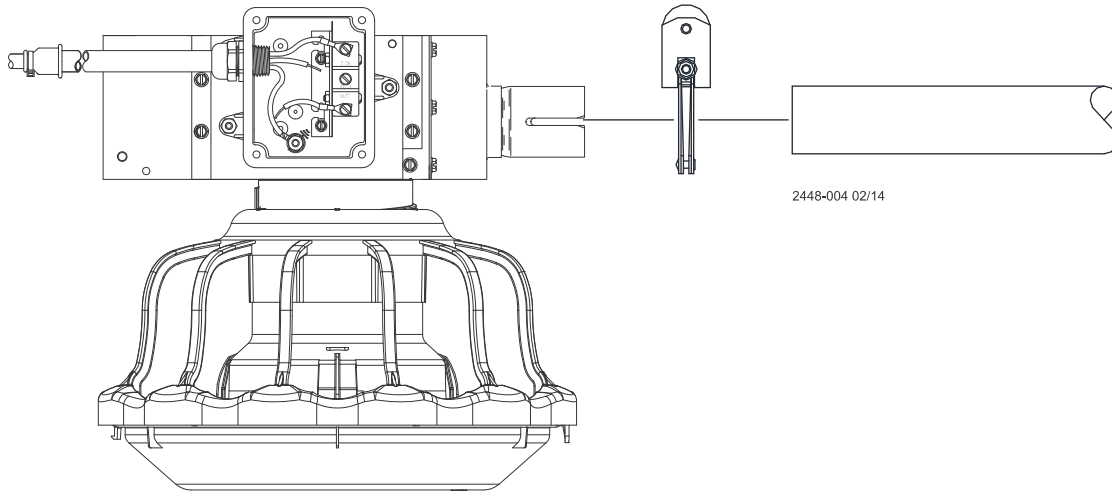

Figure 31. Connecting End Control Unit to the Feed Line Tube
1. Assemble the End Control Unit to the Feeder Line Control Tube using a clamp/anti-roost bracket. See **Figure 31**. **DO NOT INSTALL THE POWER UNIT AT THIS TIME.**